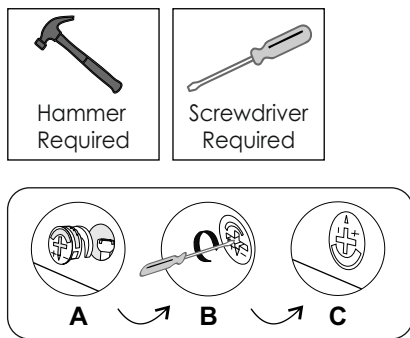

Figure 5
Step 5 : Insert **Dowels** and **Minifixs Bolt** into **Board 11** as shown in **Figure 5**.